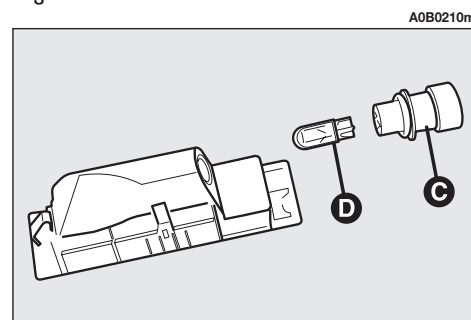

fig. 47
– remove the bulb holder (**C-fig. 47**) turning lightly and replace the bulb (**D-fig. 47**) which is pressure-fitted.
– Refit the bulb holder (**C-fig. 47**) turning gently.